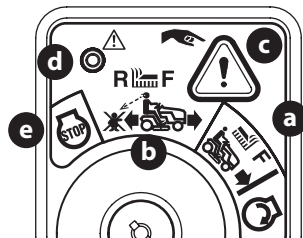

Fig. 23
2. Turn the key from the NORMAL MOWING MODE  (a) position to the REVERSE CAUTION MODE  (b) position of the ignition module (Fig. 23).
3. Press the REVERSE PUSH BUTTON  (c) at the top, right corner of the ignition module. The red indicator light (d) at the top, left corner of the ignition module will be ON while activated (Fig. 23).
5. Always look down and behind before and while backing to make sure no children are around. After resuming forward motion, return key to the NORMAL MOWING MODE  (a) position (Fig. 23).
6. The REVERSE CAUTION MODE (b)  will remain activated until (Fig. 23):